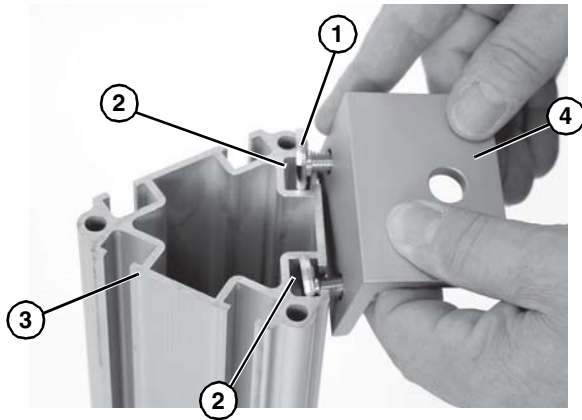

Figure 12
- Align nuts (**Figure 12, item 1**) with t-slots (**Figure 12, item 2**) on one side of trileg post (**Figure 12, item 3**). Slide the foot bracket (**Figure 12, item 4**) onto the post.